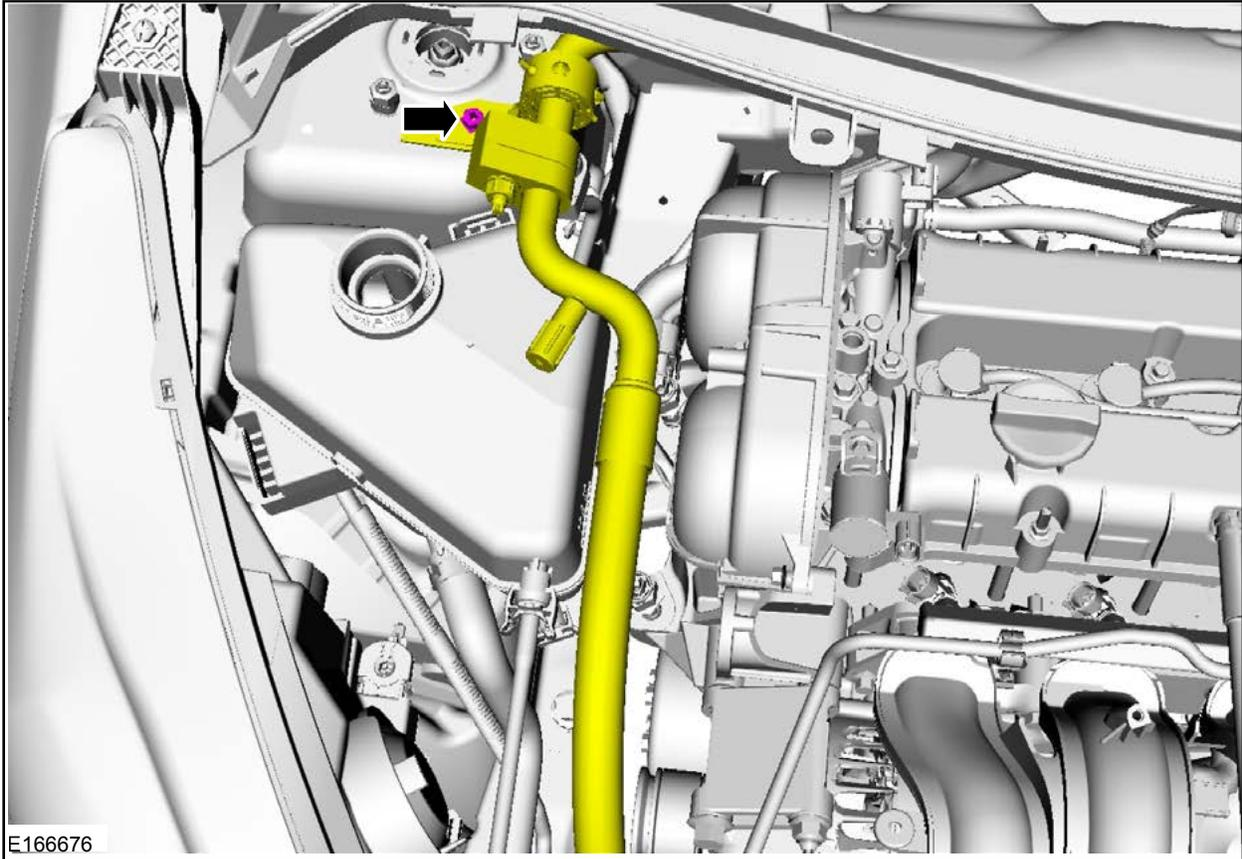

FIGURE I2
1. Remove the nut and position the A/C compressor inlet line aside. See Figure I2.